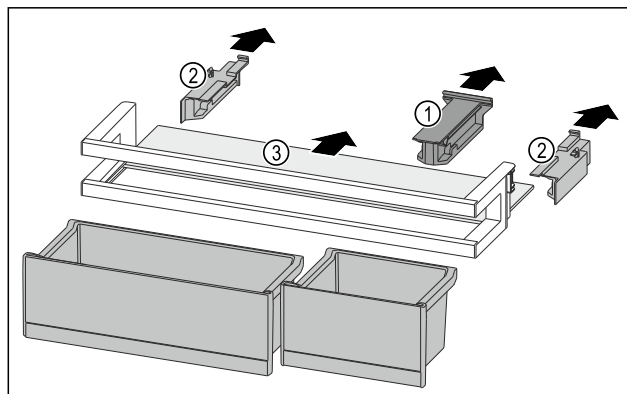

Fig. 258
- ▶ Pull off the holding part Fig. 258 (1).
- ▶ Pull off the side parts Fig. 258 (2).
- ▶ Remove the shelf Fig. 258 (3).